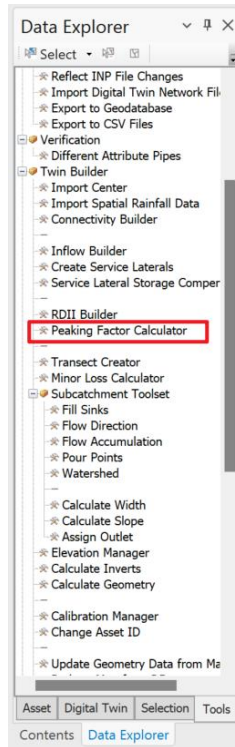

Figure 2: The *Peaking Factor Calculator* tool location.
1. The *Peaking Factor Calculator* tool under *Data Explorer > Tools* (**Figure 2**) can be used to add population based peaking factors into the sewer model.